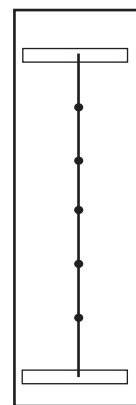

Fig. 1
1. Tie five knots, equally spaced, for climbing grips. **(Fig. 1)**
- Align top of Climbing Wall at right angle 90°. Lip of Climbing Wall should rest on the play deck 1½". Using the Climbing Wall as a template, mark play deck through the three holes in the climbing wall. Drill three ⅝" holes at marked locations. (Fig. 1)
- Insert three 2" x 6" x 23½" standard steps into the remaining holes until they are flush with the outside of the side rail. (Fig. 1)